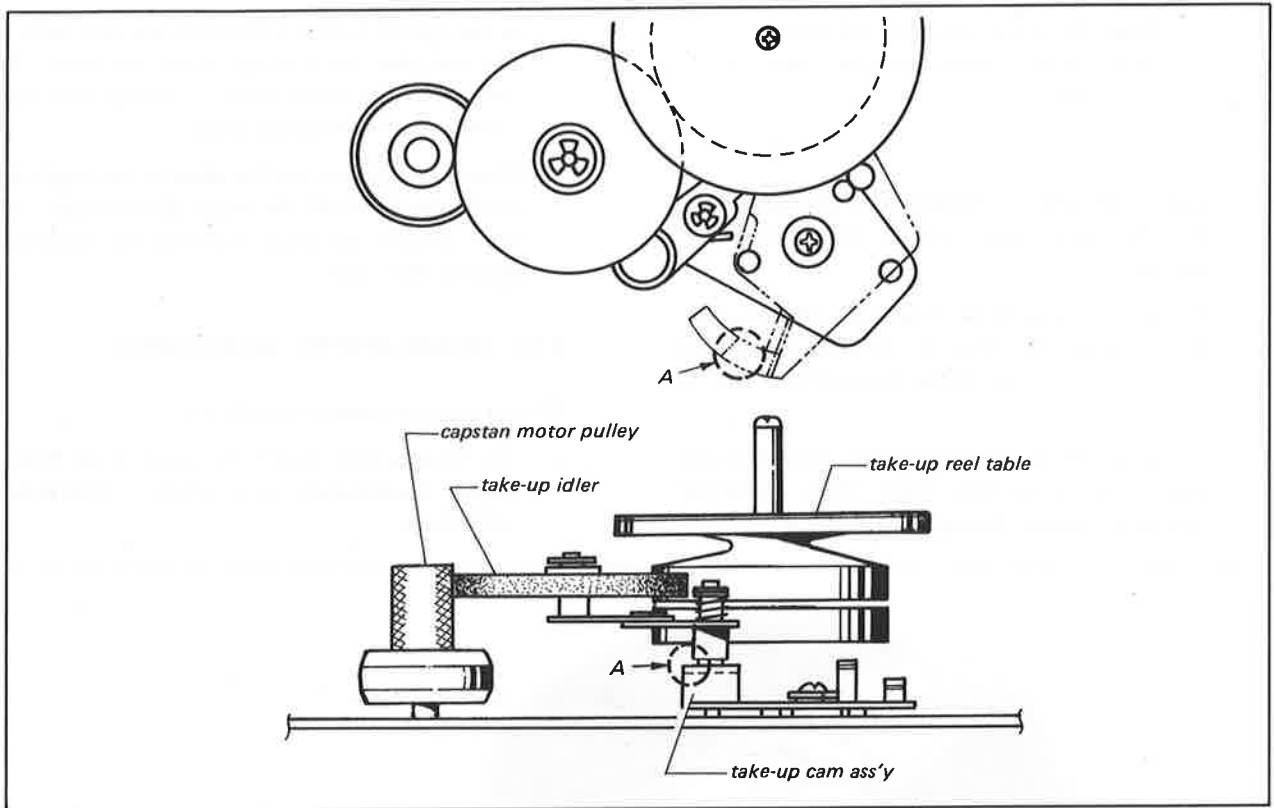

Fig. 4-12. Take-up idler height
2. If this condition does not exist, place the Function Lever in the FORWARD position. Bend Finger A with a pair of pliers as shown in Fig. 4-12, to obtain the correct Take-Up Idler height.